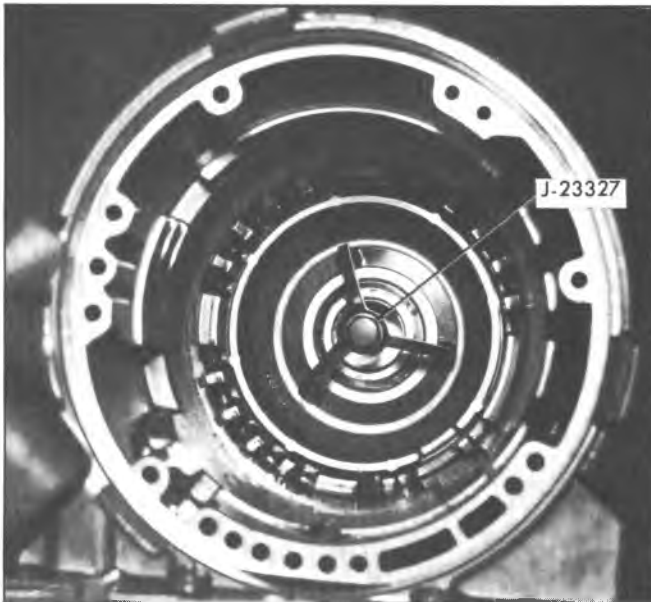

Fig. 45M--Compressing Low and Reverse Clutch
21. Compress low and reverse clutch piston spring retainer using tool J-23327 (fig. 45M) and remove piston retaining ring and spring retainer.